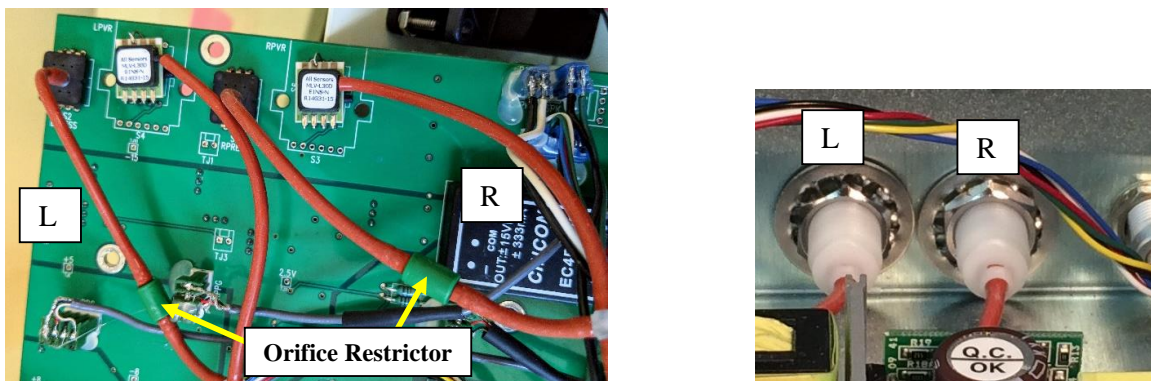
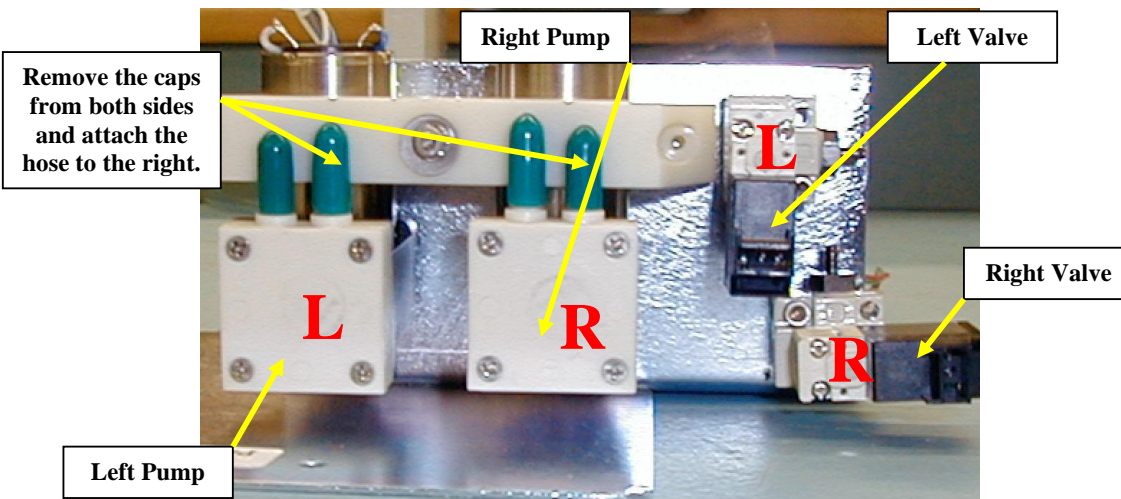
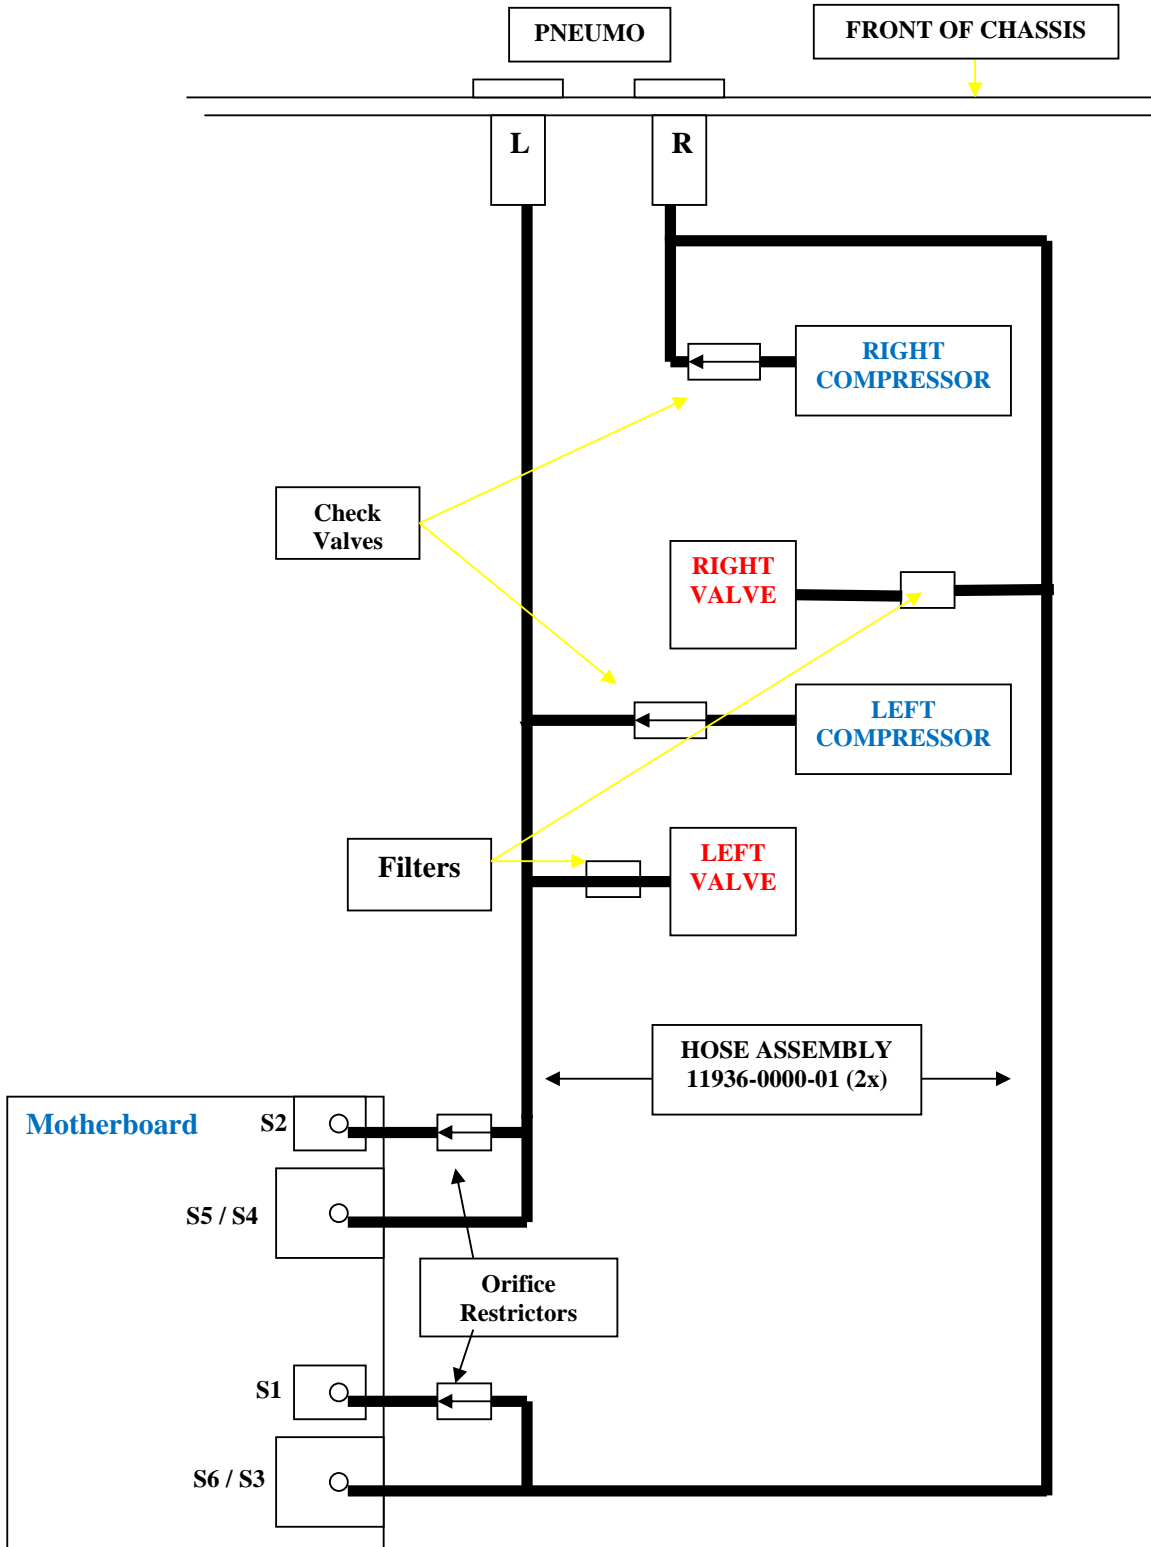

Figure 43
Figure 48
Figure 49
- 17.1. Attach the Internal Hose Assemblies to the motherboard according to Figure 43. Left Hose from the Air Fitting on the left side of Chassis (as viewed from inside) goes to S2 and S5 of the motherboard. Right Hose from the Air Fitting on the right side of the Chassis (as viewed from the inside) goes to S1 and S6 of the motherboard. Make sure the connection with the orifice restrictor goes to S2 and S1 as shown. A complete schematic of Hose connections can be found in Figure 49.
- 19.1. Remove any protective caps on pumps of the Pump & Valve Bracket Assembly (11935-0000-01). Attach the Internal Hose Assemblies (11936-0000-01) to the pumps and valves per Figure 49 as shown in Figure 48.
- Attach the left Hose (see Figure 43 right), with filter, to the left valve.
- Attach the right Hose (see Figure 43 right), with filter, to the right valve.